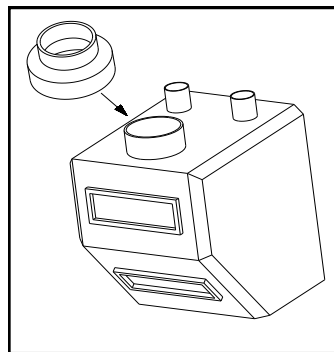

Fig. 2.1 (attach plastic reducer)
2.1 Per fig. 2.1, attach the supplied plastic reducer to the top of the heater box by snapping it in place.